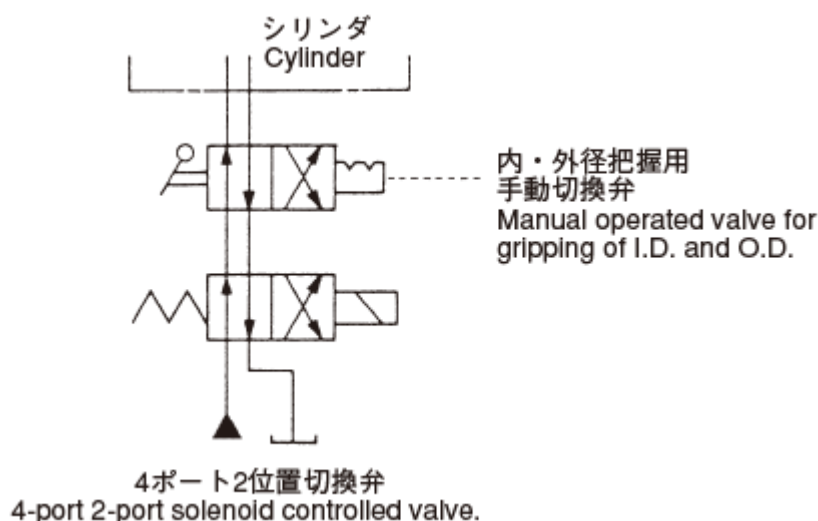

図 15 Fig.15
- 工作物加工中に停電或いは圧力源の故障等により供給圧力が異常低下し、工作物が飛散することがありますのでシリンダの切換えを4ポート2位置の電磁操作弁で行う場合には、電磁操作弁が削磁された状態で工作物の把握を行う油圧回路にしてください。(Fig.15 参照)
- When abnormal drop of the supplied pressure is caused by power failure or breakdown of pressure source during work machining, the workpiece may be disengaged and thrown off. In case the change-over of cylinder is made by use of the 4-port 2-position solenoid controlled valve, the hydraulic circuit should be so designed as to grip the workpiece when solenoid controlled valve is demagnetized. By so doing, the above danger can be avoided. (See fig.15)